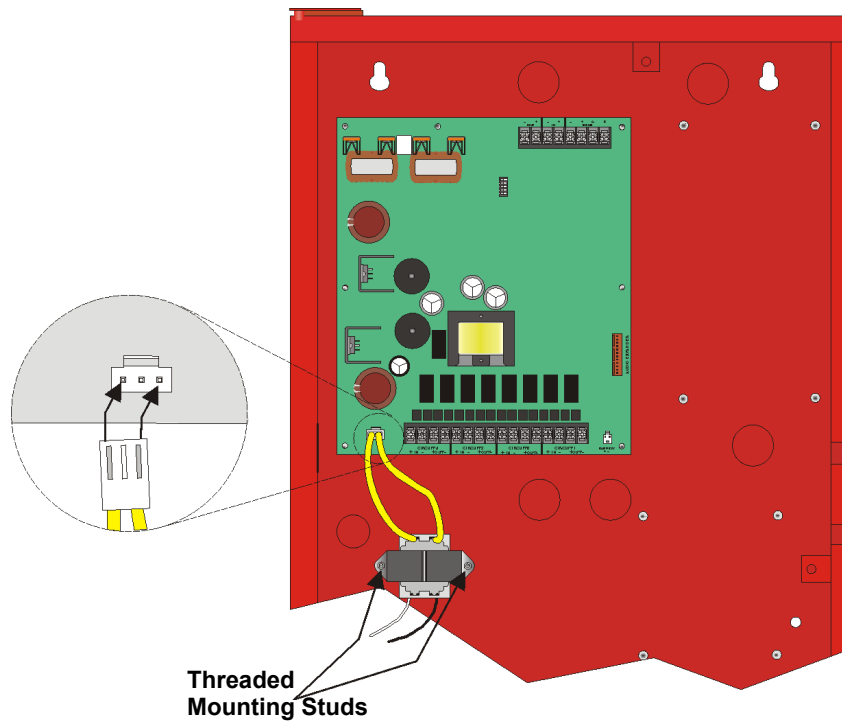

Figure 4-22 Transformer Mounting
3. Mount the transformer onto the threaded cabinet transformer mounting studs using the supplied locking hex nuts as shown in Figure 4-22.